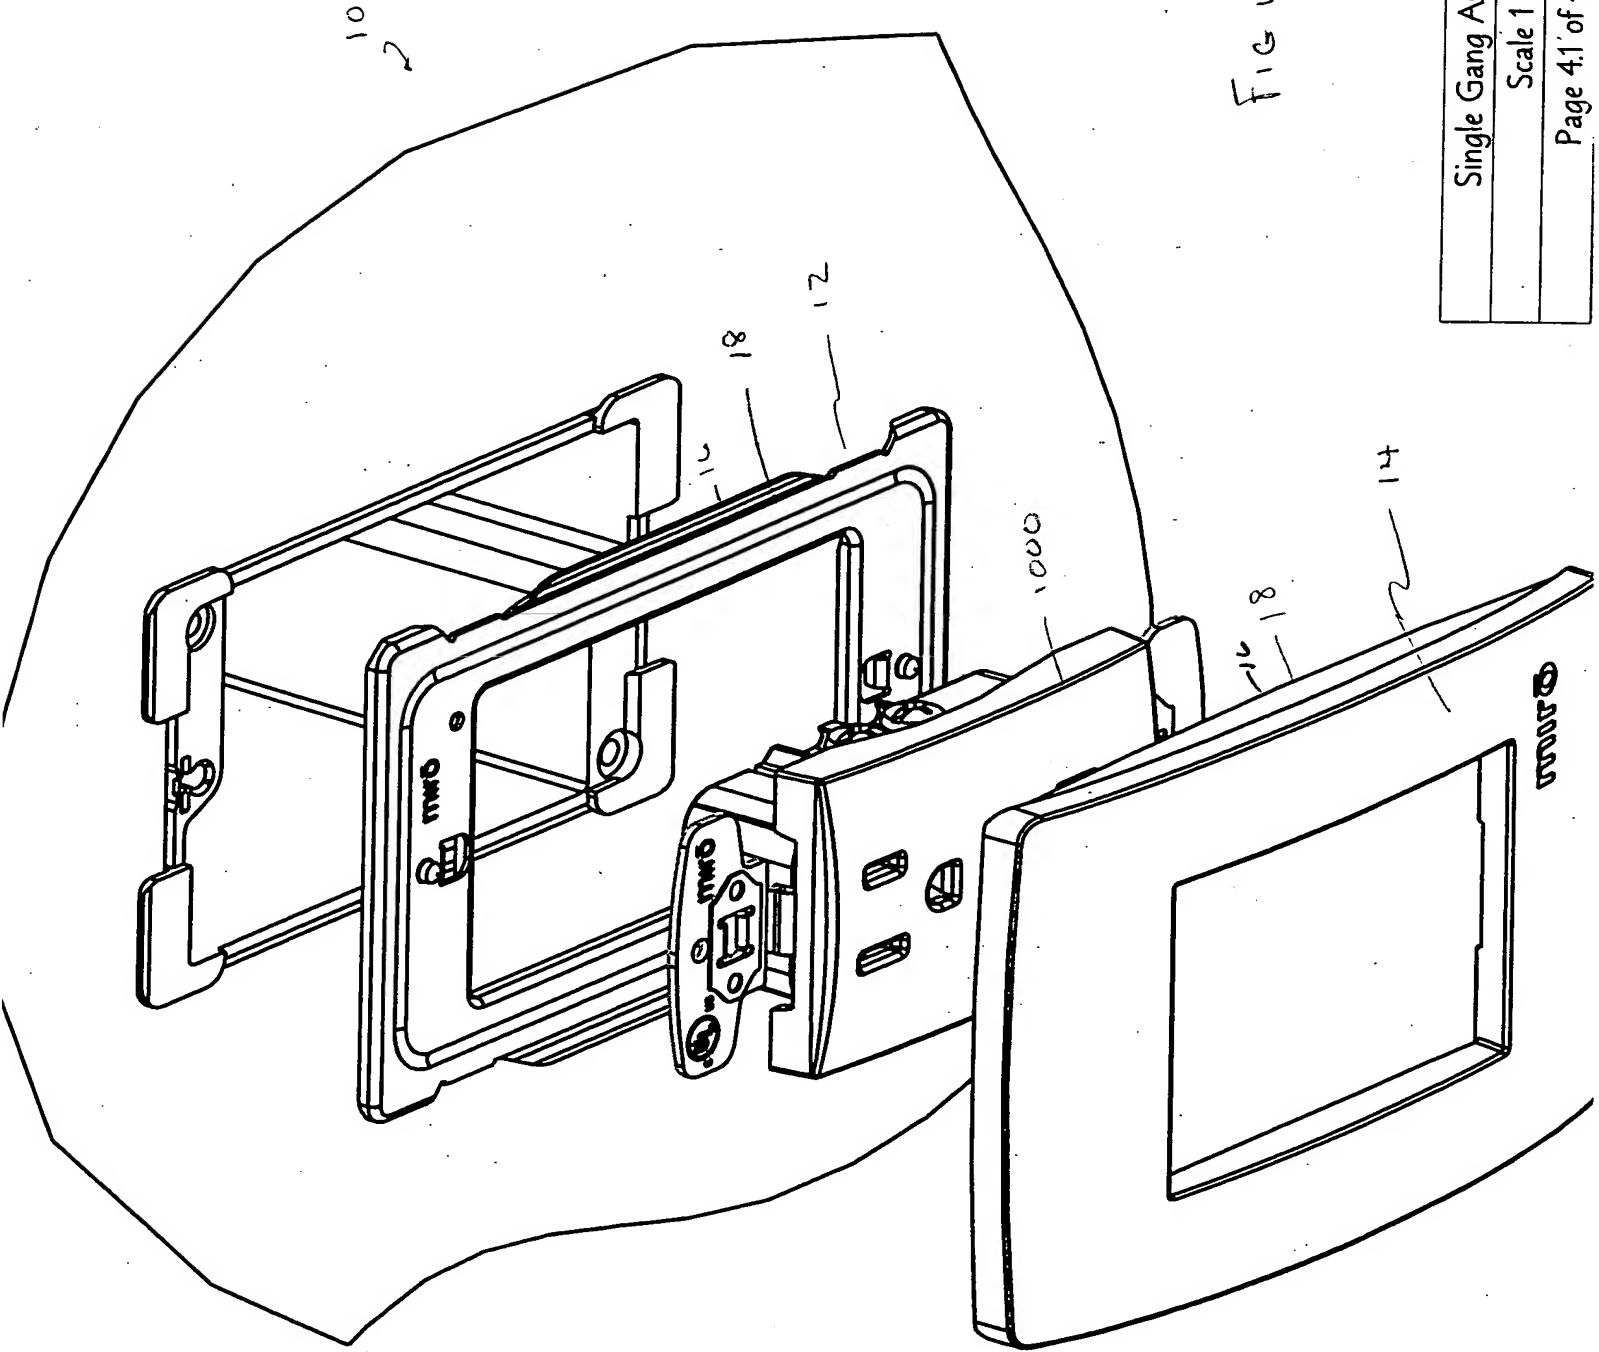

FIG 1
- ✓ • TEXT CUT OFF AT TOP, BOTTOM OR SIDES — FIGS. 1, 2B, 3C, 5A, 6A, 7J, 7K, 11C, 11D